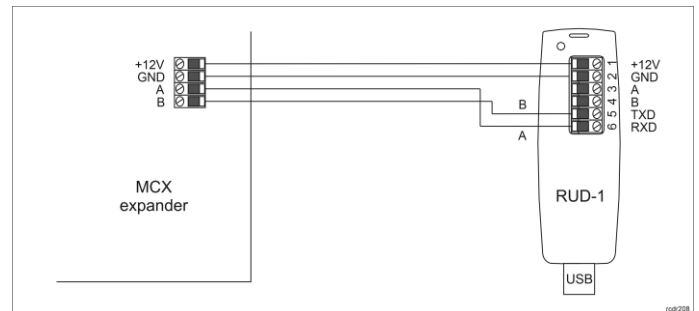

Fig. 3 Connection of the expander to RUD-1 interface (firmware update)
The firmware of device can be changed to newer or older version. The update requires connection to computer with RUD-1 interface (fig. 3) and starting RogerVDM software. The latest firmware file is available at www.roger.pl.
1. Connect the device to RUD-1 interface (fig. 3) and connect the RUD-1 to computer's USB port.